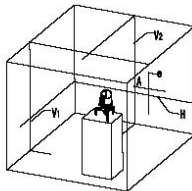

Fig. 11-2
6. If $e > 0.079"$ (2mm), the horizontal accuracy is beyond tolerance (Fig. 11-2).